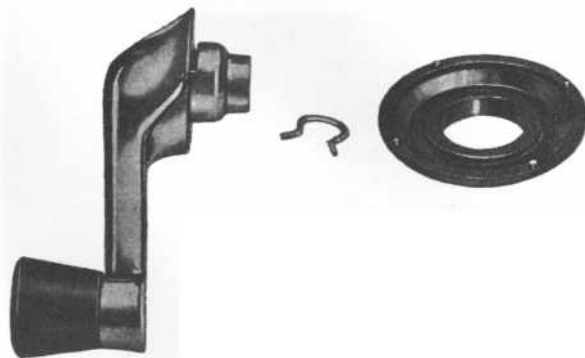
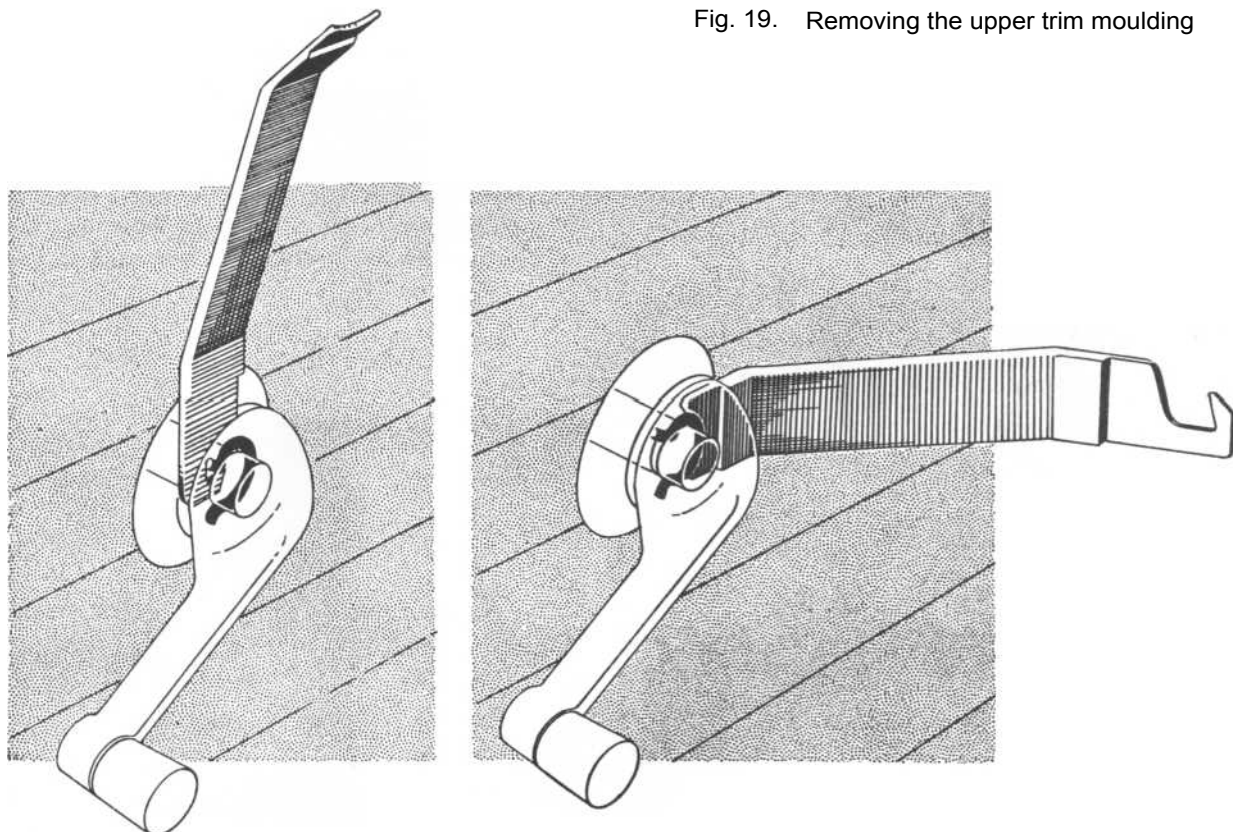

Fig. 18. Window winder with circlip
Fig. 17. Removing and fitting the window winder
2. Remove the door handle and window winding handle. These are removed by prising out the locking washer which holds them with tool SVO 2297, see Fig. 17. The window winder, locking washer and circlip are illustrated in Fig. 18.